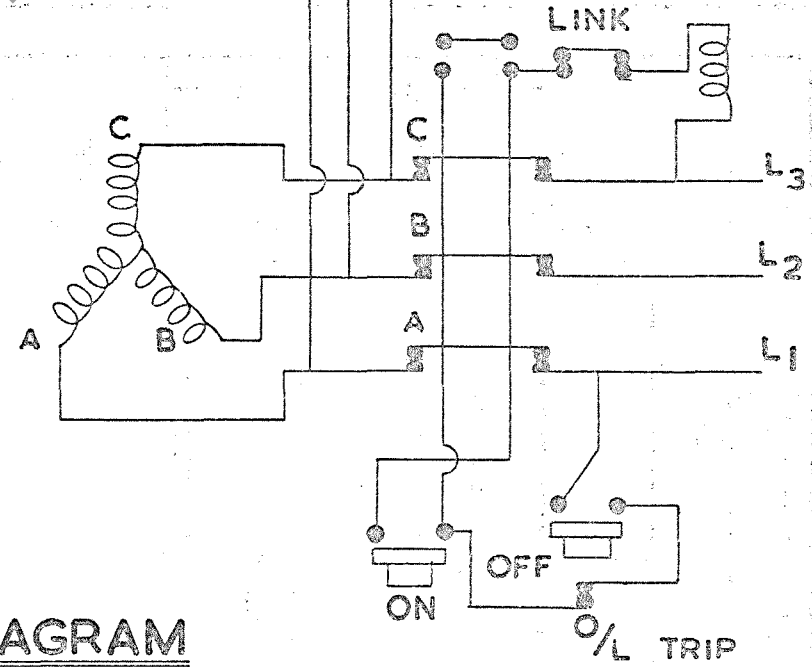

FIG 1.
4. Connect the line leads to the appropriate terminals. See fig. 1 for 3 phase supply.